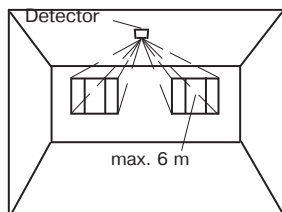
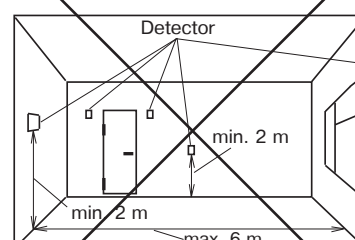

Figure 3 – Installing the Detector on the Ceiling
Figure 8 – Unauthorized Detector Installation Places
Installation height	at least 2 m (see Figures 3 – 7)
- it is recommended to install the Detector at least 2 m height (see examples of installation in Figures 3 – 7);
Correct Detector installation options see Figures 3 – 7, the incorrect one – Figure 8.